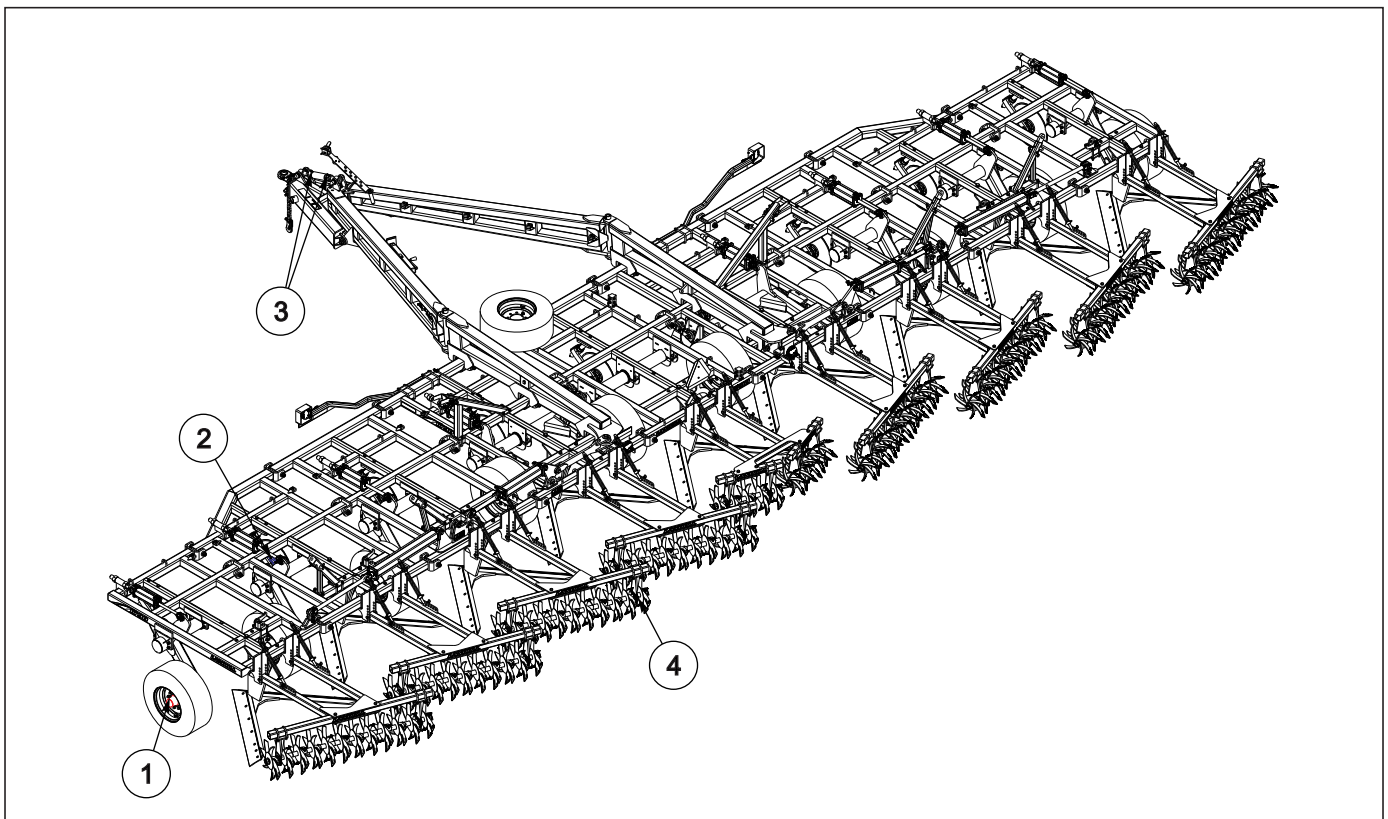

Figure 4-24: Lubrication Schedule
1. **Table 4-1** specifies the number and the period of lubrication points on the Blade Plow. Proper maintenance of your machine will, under normal operating conditions, help to keep it operating at or near its peak performance for an extended period of time. Proper maintenance is also a condition of keeping your warranty in good status **See Figure 4-24.**